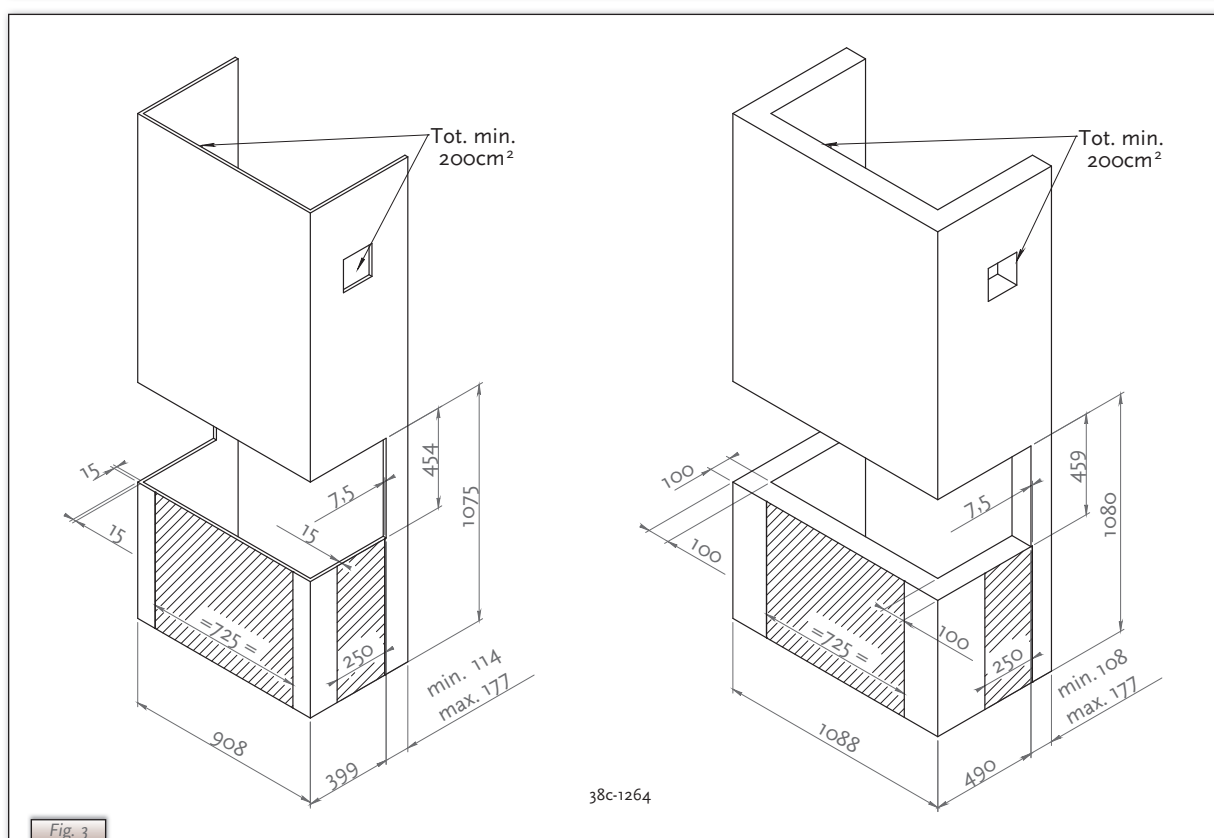

Fig. 3
- Take the depth of the appliance into account (see *fig. 3*); (498 mm minimum).